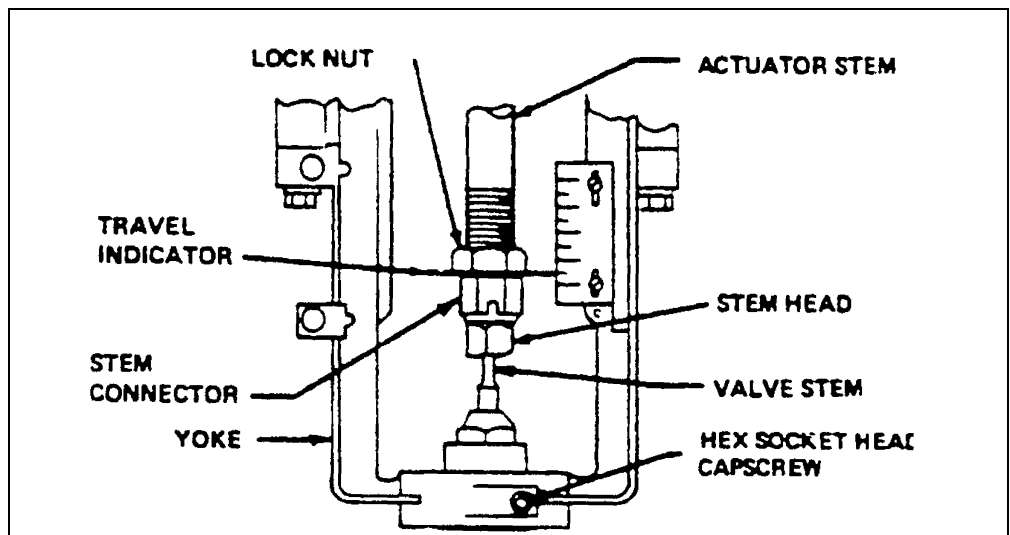

Figure 3: Actuator Removal (Pneumatic Actuator)
- Remove actuator from valve. See Figures 3 and 4 for actuator removal.